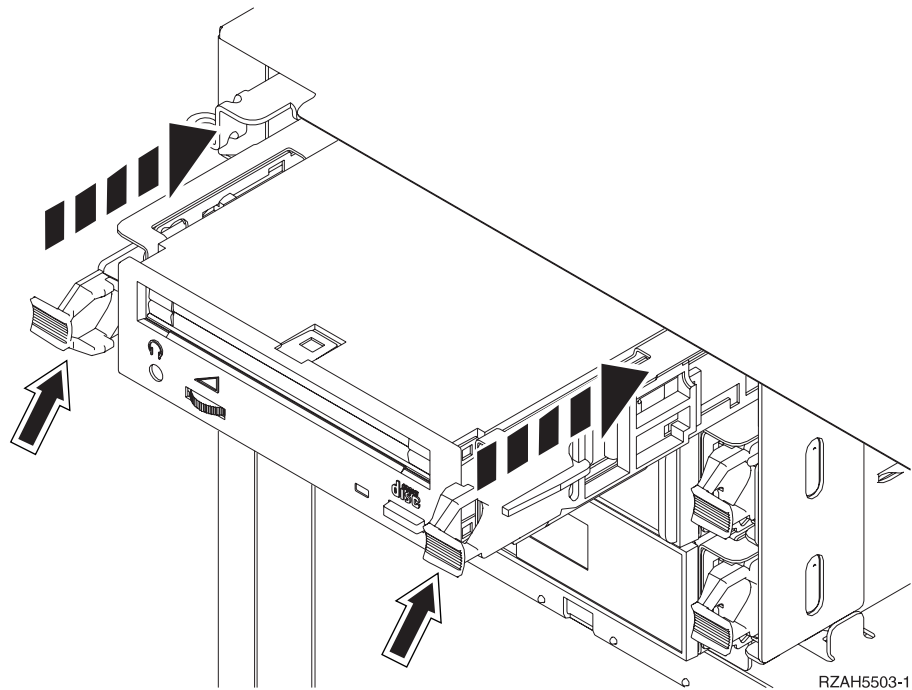

Figure 41. Installing removable media
- ___ 14. Refer to Figure 41 and support the bottom of the removable media device assembly as you slide it half way into the next available position. Do not push it any further.